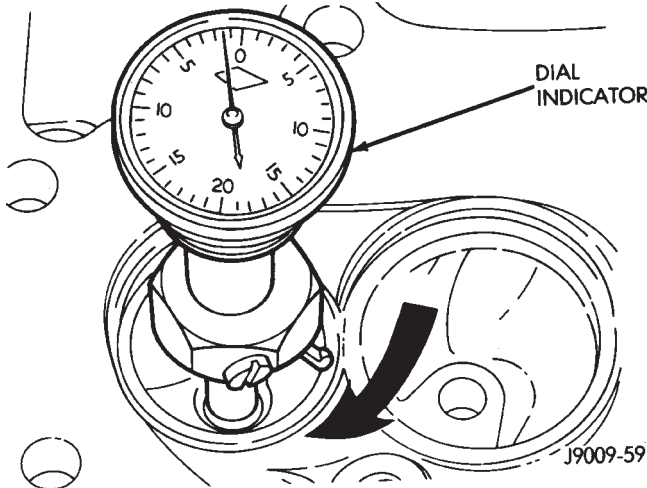

Fig. 62 Measurement of Valve Seat Runout
- (1) Install a pilot of the correct size in the valve guide bore. Reface the valve seat to the specified angle with a good dressing stone. Remove only enough metal to provide a smooth finish.
- (2) Use tapered stones to obtain the specified seat width when required.
- (3) Control valve seat runout to a maximum of 0.0635 mm (0.0025 in.) (Fig. 62).